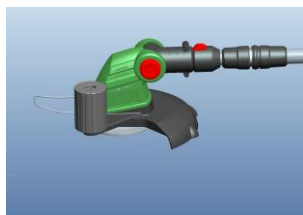
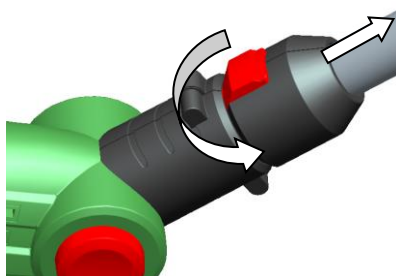
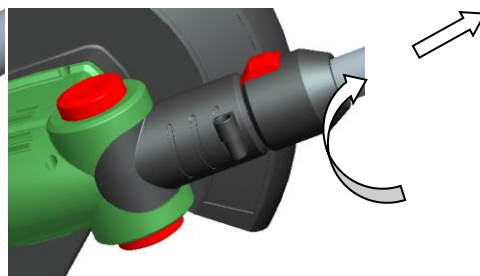

Fig.10
Fig.16
Fig.17
Setting the trimmer head angle (Fig.10,11 and 12)
To use the trimmer in edging mode, as shown in Fig.16. Slide the lock sleeve and edging function button (10) and rotate the lower part of the trimmer 90° until the button aligns with the angle adjustment handle (11). Release the locking knob. Then set the trimmer head angle as shown in FIG.10. The trimmer will lock into edging mode (Fig.15). Return to normal trimming mode as shown in Fig.17.